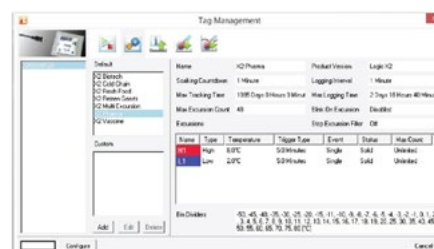

Figure 2
4. Click on the 'Configure Tag' icon, select a default or custom temperature profile configuration and press 'Configure' (Figure 2). A green box on the left will display PASSED.